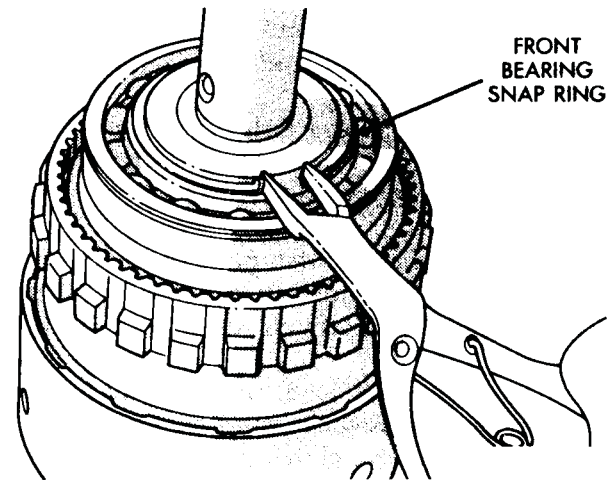

Fig. 20 Front Bearing Snap Ring Removal
(5) Remove output shaft front bearing snap ring (Fig. 20).